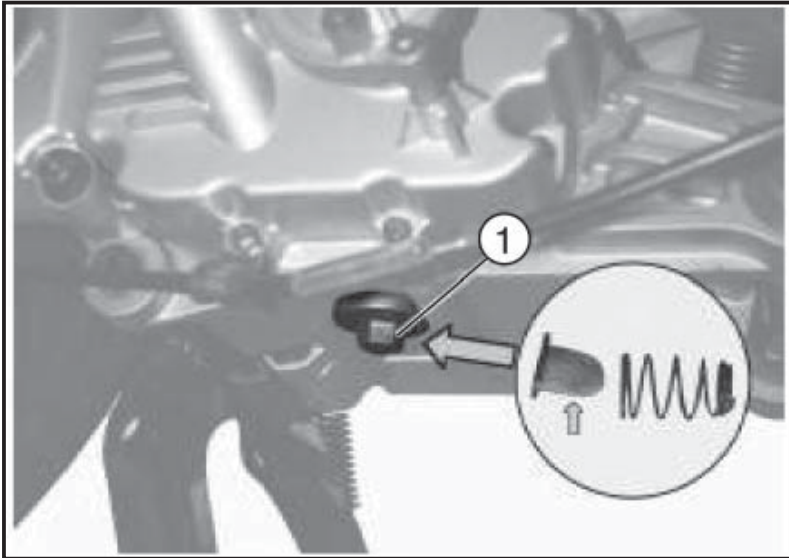

Fig. 01
REPLACEMENT (Fig. 01)
- Loosen and remove the oil drain plug «1 - Fig. 01». The spring and oil strainer screen, will come out with the drain plug. Remove the oil filter cartridge «2 - Fig. 02» and replace with a new oil filter.